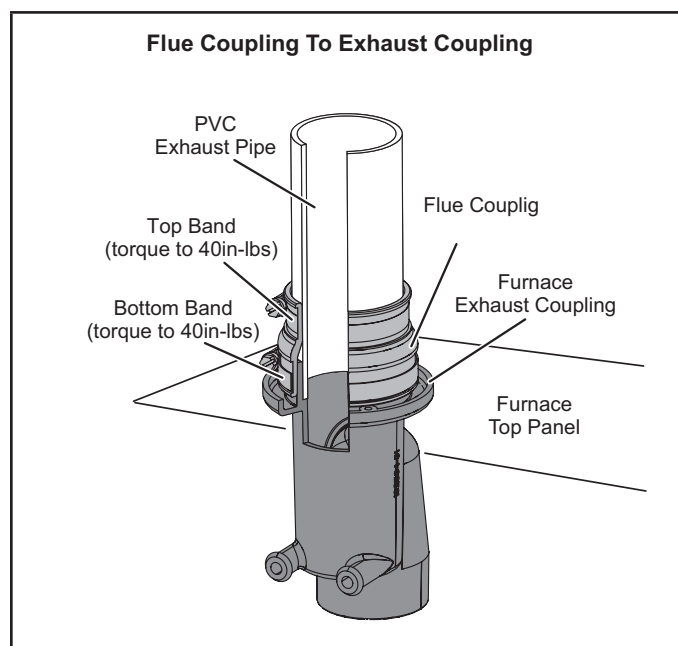
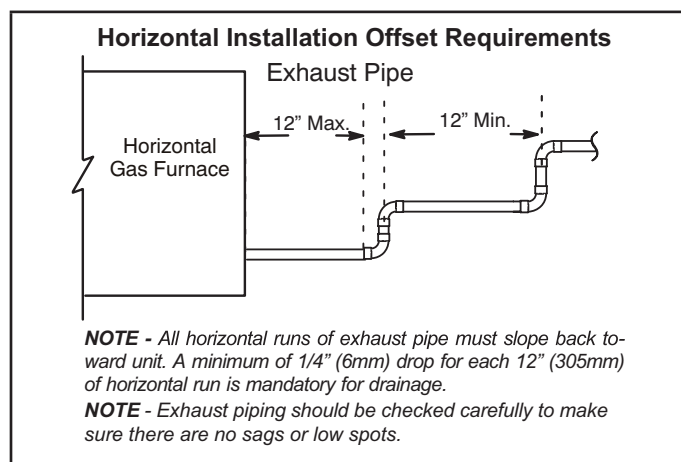

FIGURE 18
FIGURE 19
NOTE - Vent pipe must be installed with flue coupling See FIGURE 18.
Exhaust Piping (FIGURE 18, FIGURE 19, FIGURE 21 and FIGURE 22)
- 4 - Tighten both top and bottom bands to 40in-lbs. See FIGURE 18.